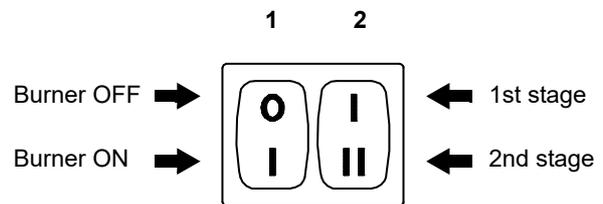

Fig. 25
- switch 1)(Fig. 25) on "BURNER ON";
- switch 2)(Fig. 25) on "1ST STAGE".
In the above description, we left the burner running, operating in the 1st stage. Turn switch 2)(Fig. 25 on page 24) to the 2nd stage position: The servomotor will open the air damper and, at the same time, also the gas butterfly valve opens at 90.
Turn the switch 2)(Fig. 25 on page 24) to the 1st stage position: the servomotor 1)(Fig. 26) will close the air damper and, at the same time, also the gas butterfly valve closes to 15°, i.e. to the factory setting.
- If it is necessary to increase it, pass to 2nd stage by activating the switch 2)(Fig. 25 on page 24) and slightly increase the angle of the orange lever with small, regular movements, i.e. bring it from an angle of 15° to 17° - 19°....
Switch off the burner using the switch 1)(Fig. 25 on page 24), and turn the intermediate screws of the cam so that the inclination of the cam itself is progressive.